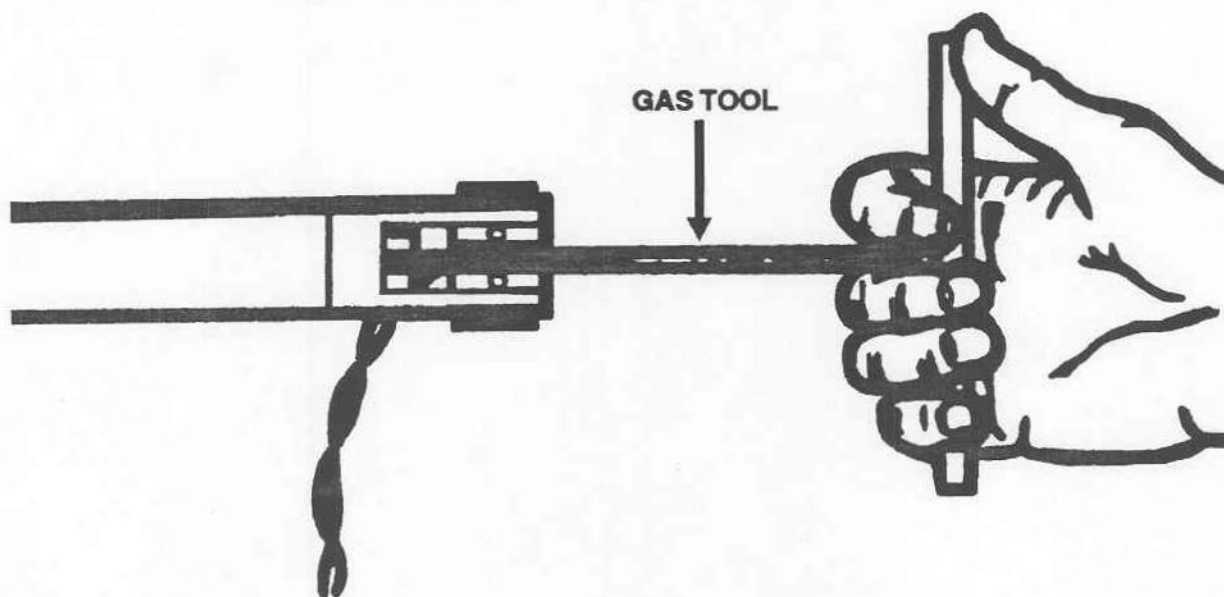

Figure 3-16. Gas tool.
(10) Insert the special gas tool into the rear of the arm and turn counterclockwise until the pressure is reduced. Turn the tool an additional four full turns (fig 3-16).